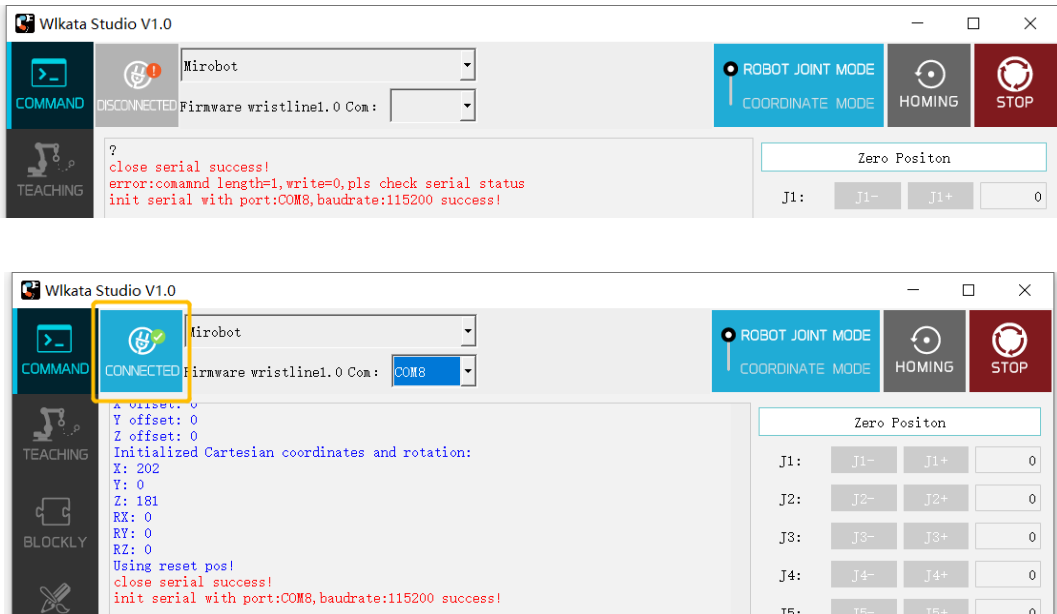

Figure 3.9 WLKATA Studio can search and connect to the manipulator automatically
(1) Open the **Wlkata Studio.exe**. The software should automatically search and connect to the manipulator after a few seconds. When successfully connects to the manipulator, the upper left corner of the WLKATA Studio interface should display the **CONNECTED** blue icon, as shown in Figure 3.9.